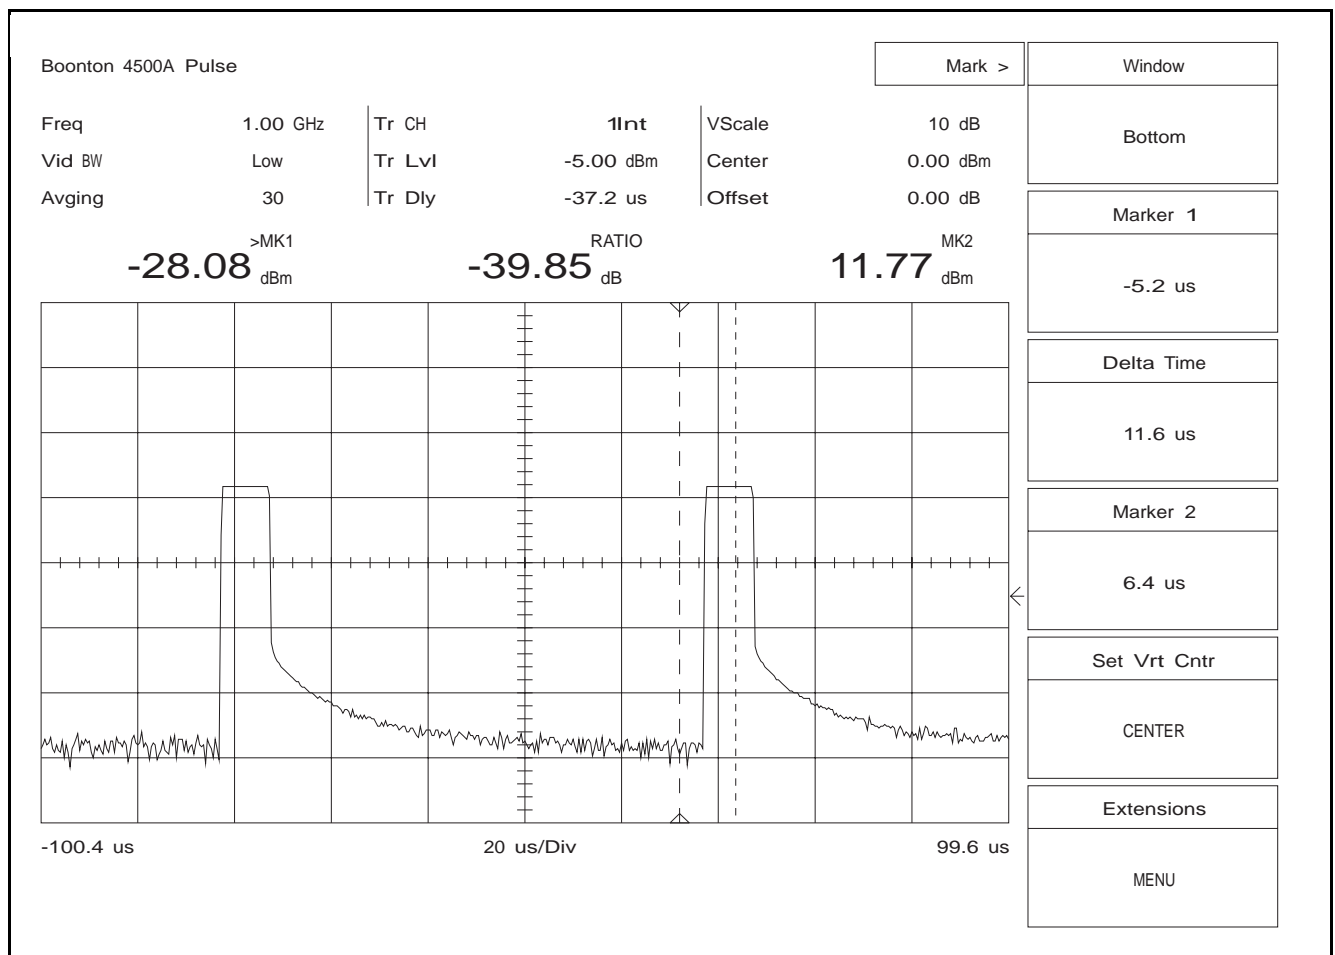

Figure B-1. Sample Output Plot
The Model 4400A/4500A outputs data to a plotter, printer, or an IBM-compatible personal computer (PC) through the Serial 1 connector on the rear panel. Table B-1 lists the appropriate interface cables for the available plotters and IBM-compatibles. Figure B-1 illustrates the pin connections for the DB9/DB25 cable used with the plotters listed in Table B-1. The DB9/DB9 cable used to connect the Model 4400A/4500A to a PC is wired on a “straight through” (“pin-for-pin”) basis.
Figure B-1 is a sample output plot from the Model 4500A.